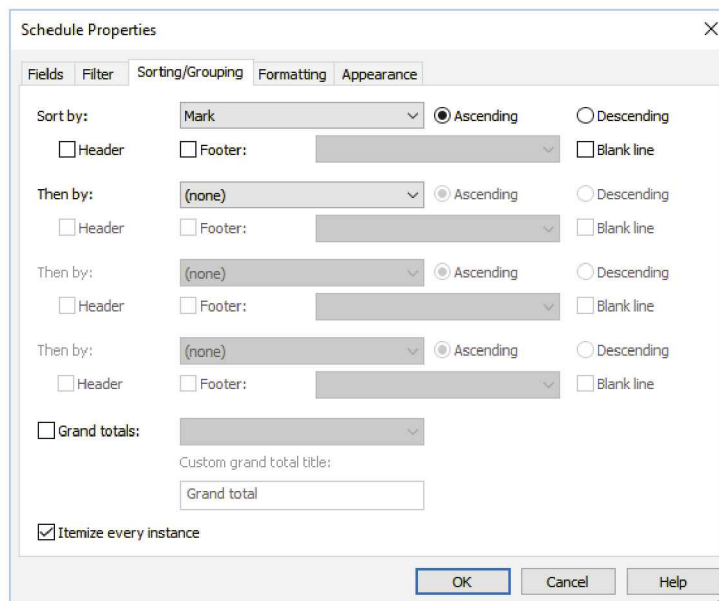

**Figure 12-2.2** Schedule Properties – Fields
4. On the **Fields** tab, add the information you want displayed in the schedule. Select the following (Figure 12-2.2):